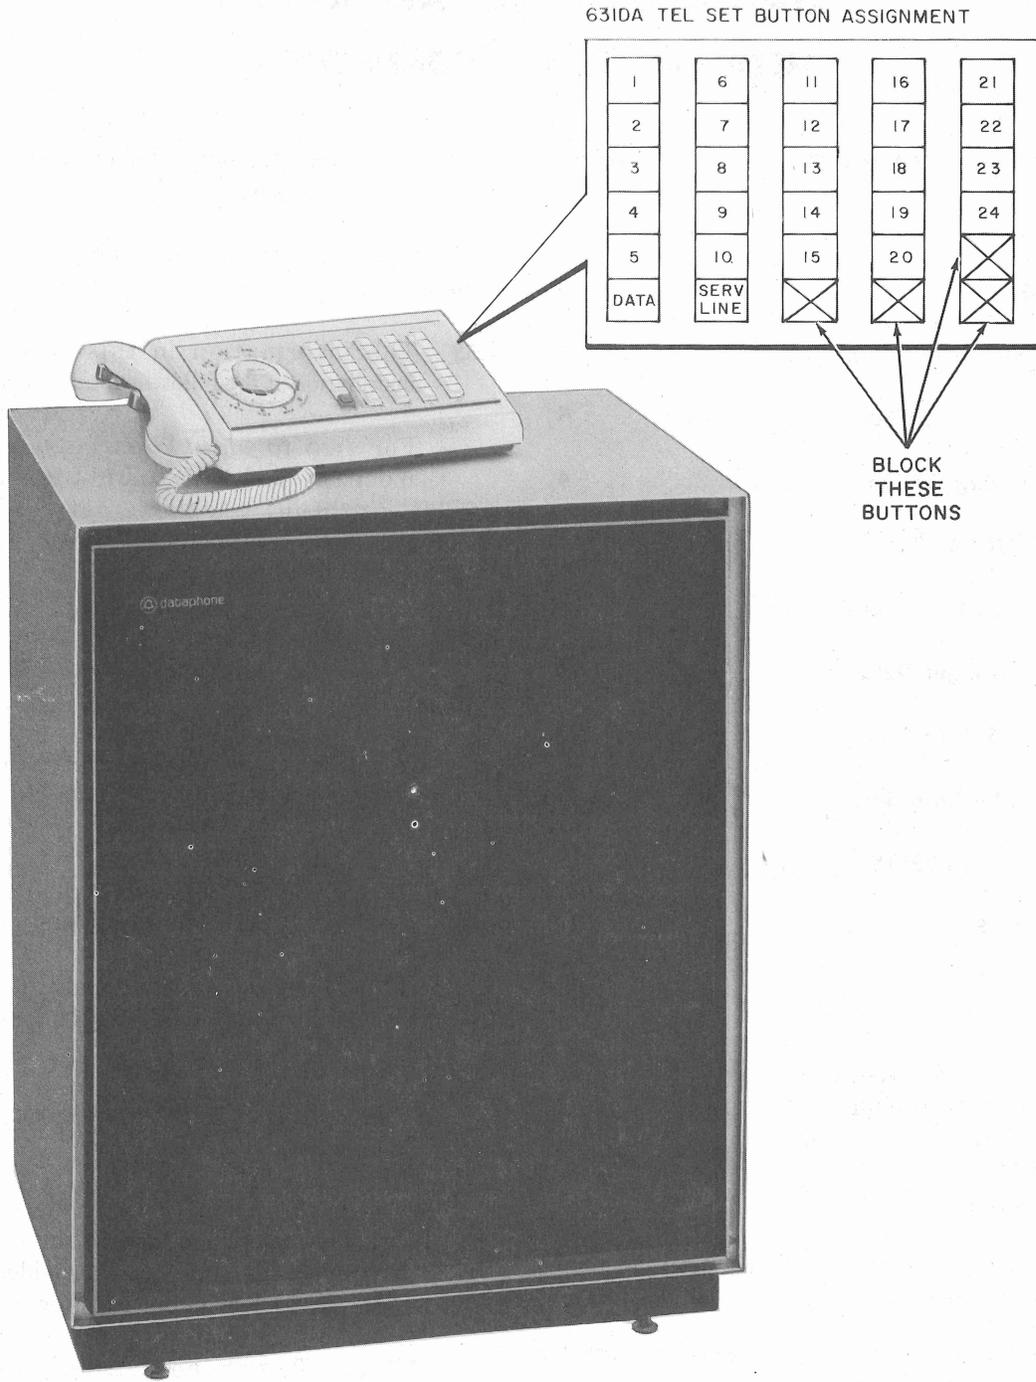

Fig. 1—202S Data Station
1.01 This section covers the installation and connection procedures to be followed when installing a data station utilizing data set 202S. This station will be referred to in this section as a 202S data station (Fig. 1).